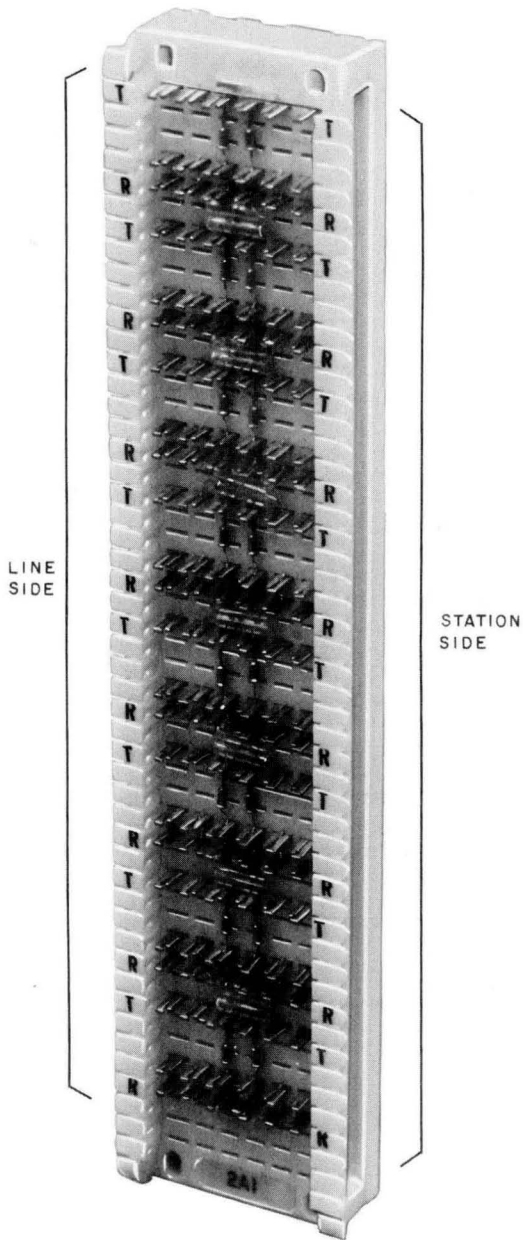

Fig. 1—2A1 Matrix Block
1.01 This section provides information for providing station busy (SB) and message waiting (MW) features in 1A, 1A1, or 1A2 Key Telephone Systems (KTSs). The arrangement utilizes the MW consoles (6B1 and 7B1) used with COM KEY* systems (Fig. 1).